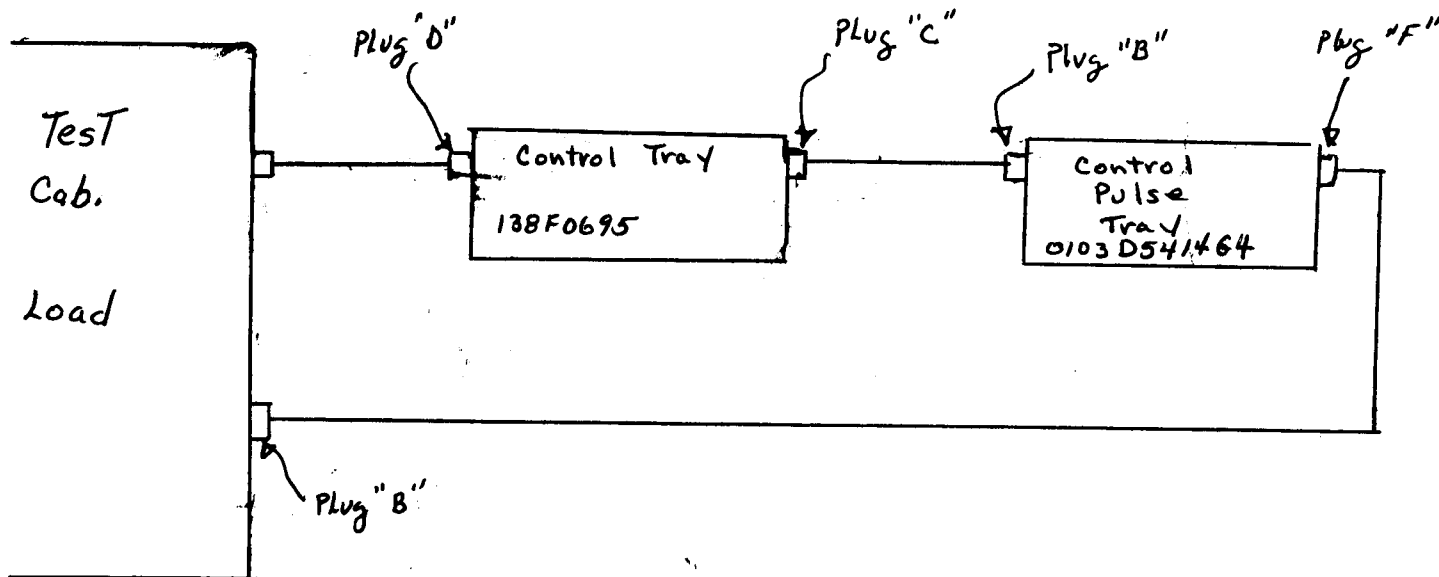

FIGURE 1
1. A tested control tray (0138F0695) and associated cables are needed and connected as in Figure 1. Use the 0° (C plug) on the control tray output.